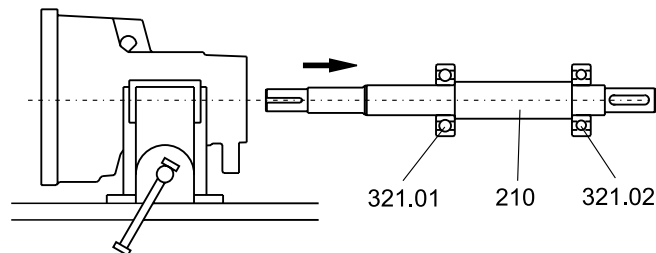

Fig no.12b : Dismantling the pump shaft from bearing bracket.
6. Fasten the bearing unit (330) firmly to the bench vice refer fig No. 12b. Strike the pump shaft end with a soft hammer.